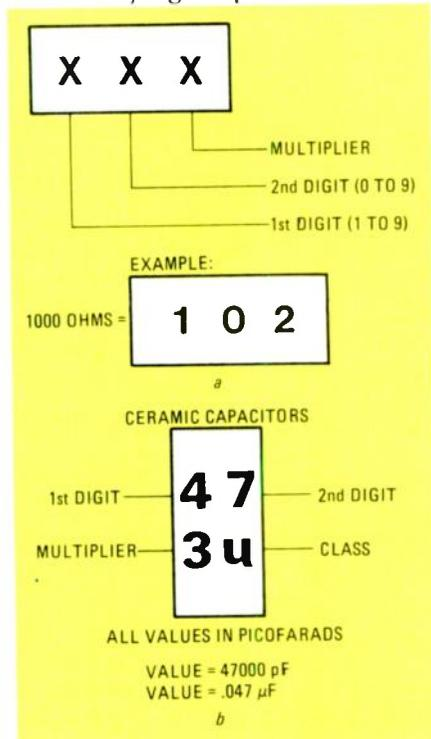

FIG. 1
Instead of using colored dots or bands, chip resistors are identified by numbers printed on the top of the device, as shown in Fig. 1-a. For example, a 1000-ohm resistor would be marked "102." The first two numbers (10) are the first two digits of the value. The third number is the power-of-ten multiplier. (It tells you how many zeros to add, as seen in Fig. 1-a.)
Ceramic capacitors are marked with a similar system, except that two rows of numbers are used, as shown in Fig. 1-b. For instance, a .047- $\mu$ F capacitor would be marked "47" in the top row and "3u" in the bottom one. The top two numbers represent the first and second digit in the part value. The number in the second row is the power-of-ten multiplier. All values are marked in picofarads. (To convert that value to microfarads, the decimal point is then moved six places to the left.) That is practically the same as the system used now for small mica and ceramic types. The letter following the number represents the class or tolerance of the capacitor.